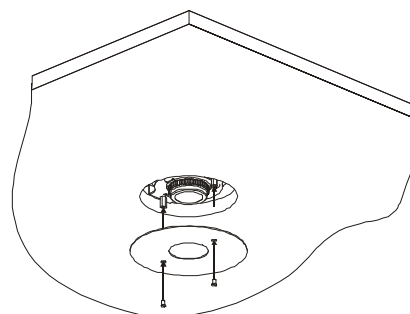

Fig. 3.7) Fitting the trim plate
- 6) Position the camera with its lens centred in the hole in the ceiling tile. **Invert the ceiling tile, taking care to support the camera.** Position the trim plate and fasten it in place with the two 6mm/0.24 M3 countersunk screws supplied, as shown in Fig. 3.7).